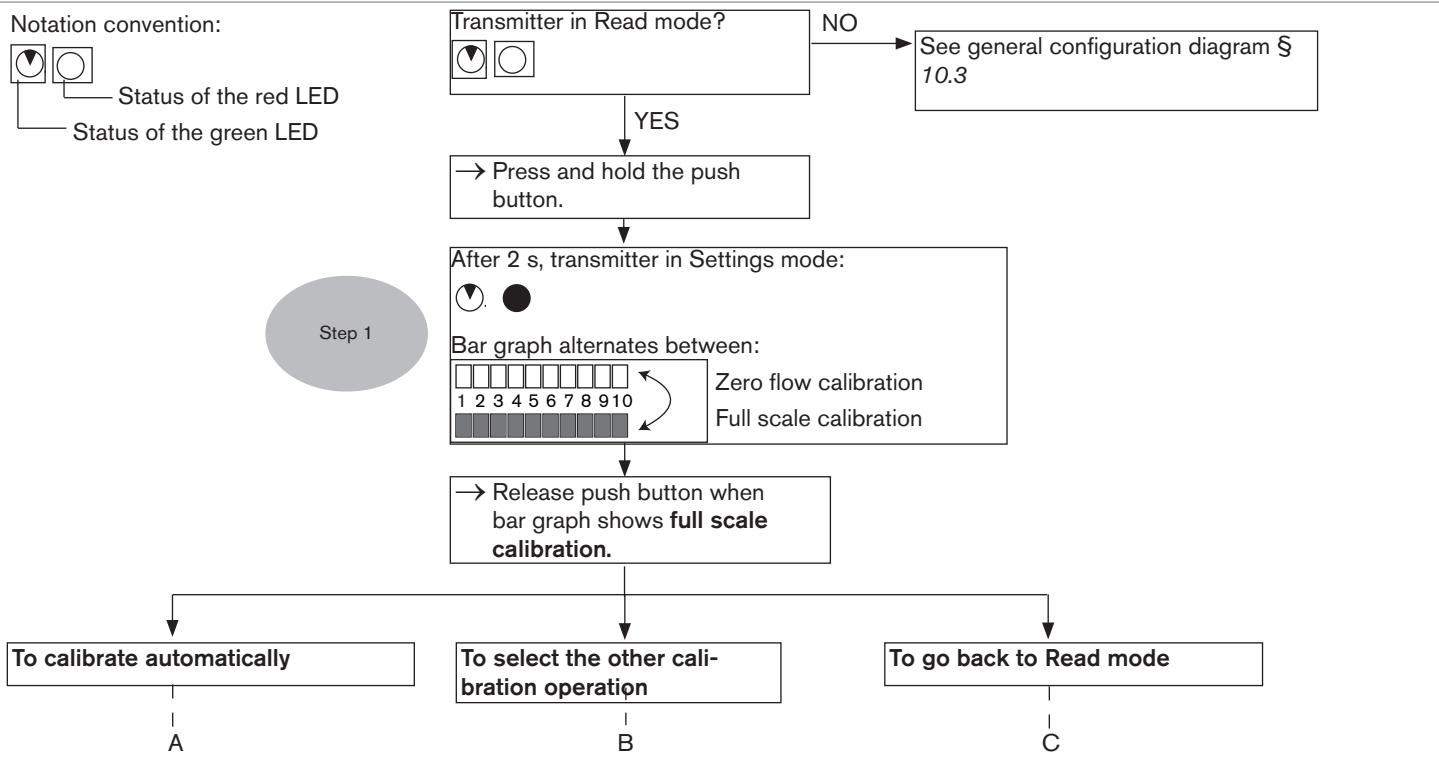
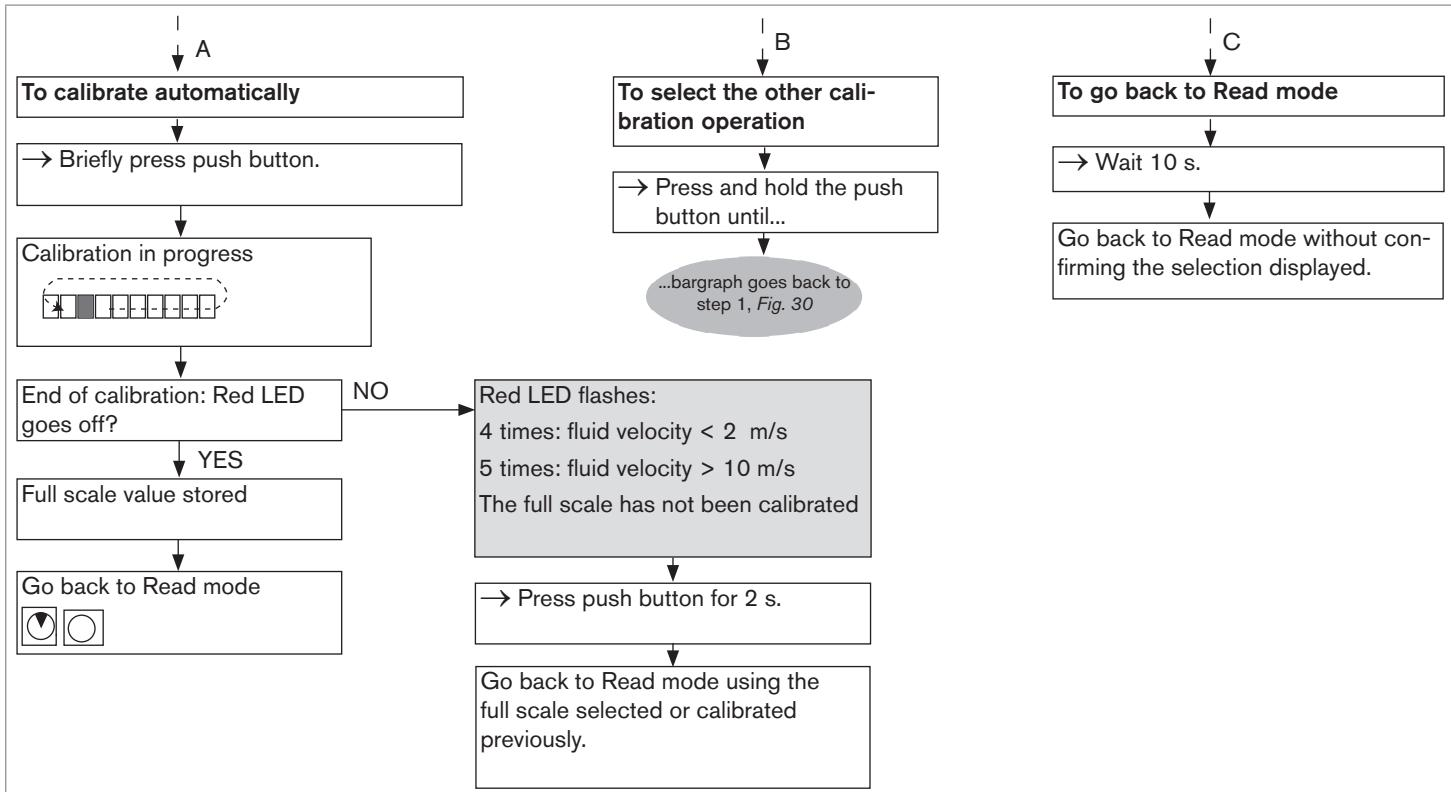

Fig. 30 : Calibration of the full scale, part 1
Fig. 31 : Calibration of the full scale, part 2
- Calibrate the full scale, see Fig. 30 and Fig. 31 .